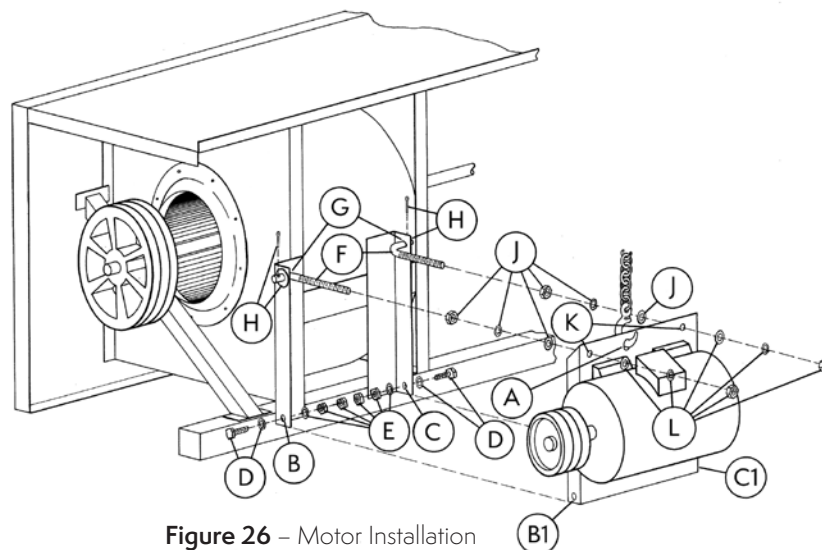

Figure 26 – Motor Installation
1. Study **Figure 26** before installing the motor bases on the unit.